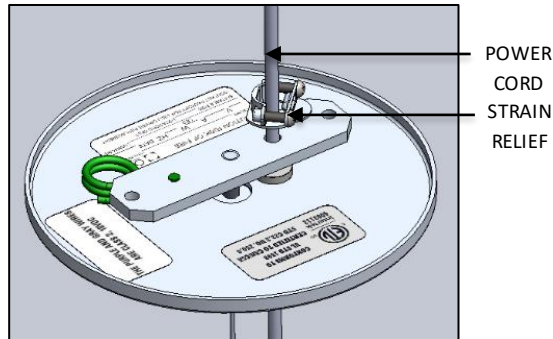

FIG. 31 – STRAIN RELIEF INSTALLATION
6. Then first feed the CORD through the holes which is available in the MOUNTING BRACKET ASSEMBLY and then secured it to the desired length bypass it through the STRAIN RELIEF as shown below in FIG. 31 & 32.